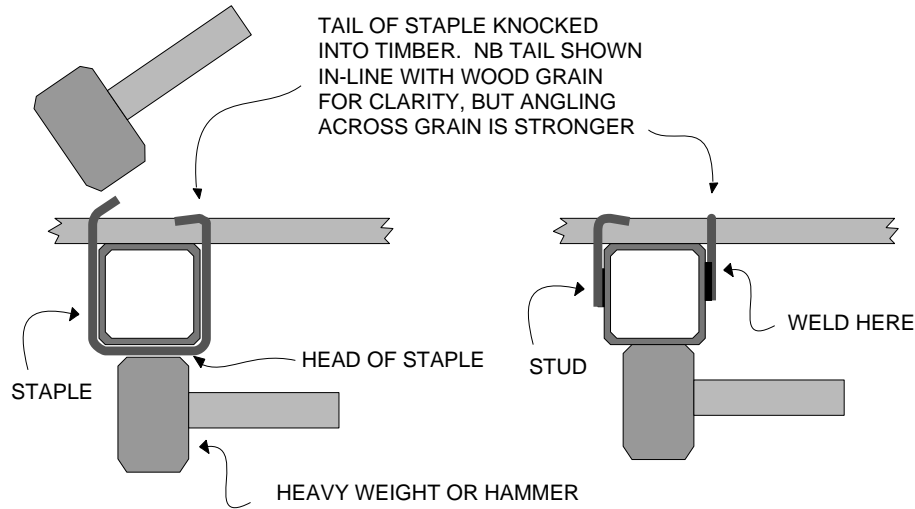

Figure 6: fixing wood with staples or studs.
- 6) Nearly there! Now you need to fix the wood onto the square tube. You can do this with staples or studs. Staples use more steel but studs need more welding. Figure 6 shows the choices - staples are like big U s, and studs are just pieces of 6 mm wire sticking up which you bend over the wood.
are happy that all is in the right place, weld the staple to the square tubing as shown in Figure 6. Then put the rest of the staples in in the same way.
If you want to use studs, weld them on to the side of the square tube as shown in Figure 6. You can either drill holes for them as described earlier for staples, or you can bring them up past the edge of the planks, which saves drilling holes.